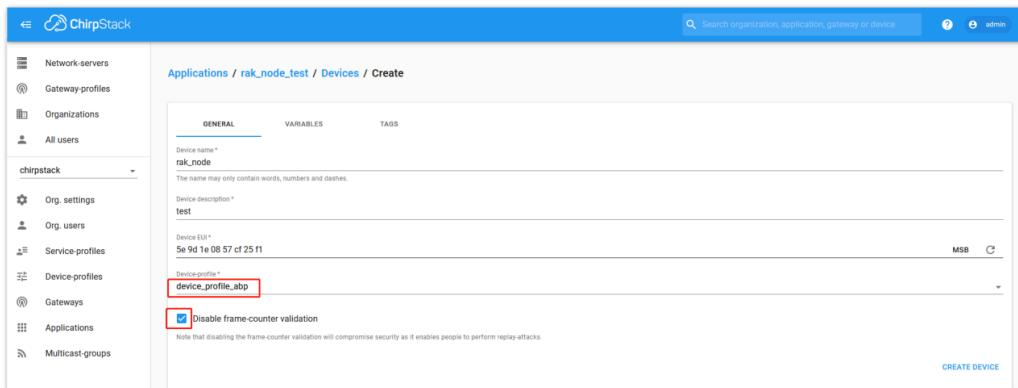

Figure 214: ChirpStack console, Configuring a device
- During the registration of a new device, if you select **DeviceProfile\_ABP**, as shown in **Figure 214**, then the ChirpStack platform will assume that this device will join the LoRaWAN network using the ABP mode.